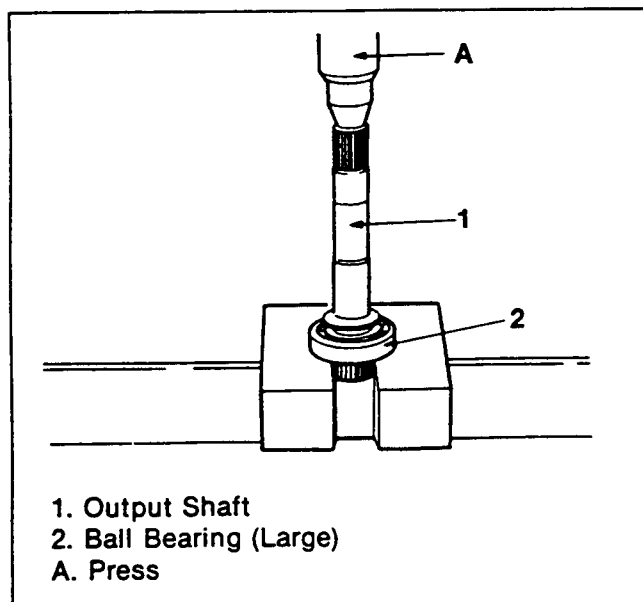

Figure 185. Ball Bearing (Large) Installation
Assemble (Figures 185, 186 and 187)
1. Install a new ball bearing (large) to the designated position (figure 185).